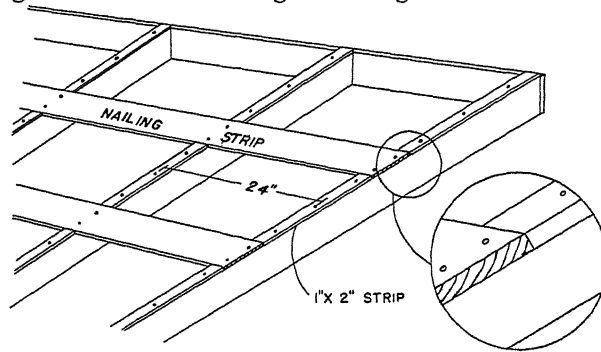

Fig. 4.—Method of attaching nailing strips to rafters. The strips of wood on rafters provide a solid nailing surface for side laps.
and 4. Support must be provided on the side laps for nailing every 8 inches. If nailing strips are placed more than 8 inches apart, a 1- by 2-inch strip should be nailed on top of the rafters to provide firm support under the side laps as shown in Figure 4.
4. Failure to provide support under the side laps when nailing corrugated sheets over slats (see Figure 4).
According to tests1 in California, aluminum paint on galvanized iron roofing laid over a framework similar to that shown in Figure 4, made temperatures under the roof as cool as if unpainted galvanized iron had been laid over a tight roof such as shiplap would make. A good coat of aluminum paint apparently was about equal to  $\frac{1}{2}$  inch of insulation board placed directly under the roofing.